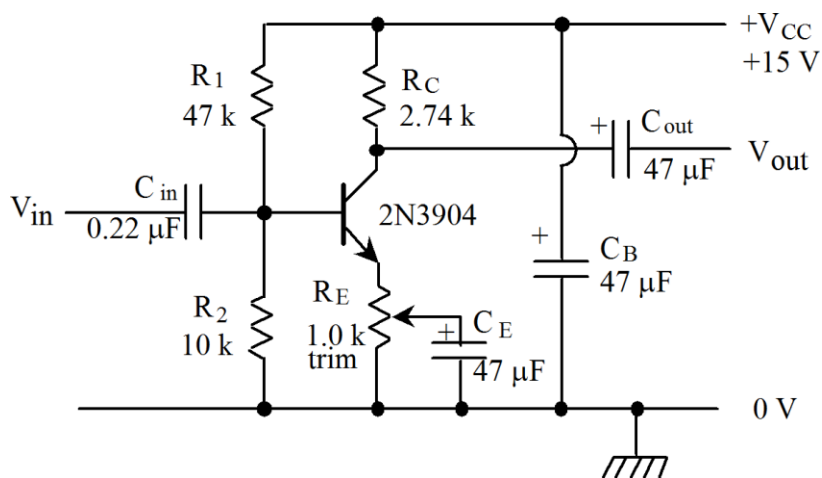

Figure 7.4 Common Emitter Stage Layout and Schematic
If we are interested in the ac gain, then we can replace R_C and R_E with the ac impedances attached to the collector and emitter, which may be different from the dc resistances. In our circuit we use C_E to bypass part of the emitter resistor at the signal frequency (see Fig. 7.4 below).
2. (2 points) Find the ac voltage gain of the circuit in Figure 7.4 (see below) for 15 kHz sine waves with the emitter bypass capacitor C_E removed.
3. (2 points) The emitter bypass capacitor can provide an ac ground path for the emitter, increasing the gain of the amplifier at high frequency. Considering the effects of the intrinsic emitter resistance r_e , what is the maximum possible ac voltage gain of the amplifier in Figure 7.4 (assume $I_C \approx 2$ mA)?
4. (3 points) What setting of the emitter trimpot is needed to give the required gain of -25 ? (Do not assume $r_e = 0$.) For the single stage in Figure 7.4, what are the input and output impedances r_{in} and r_{out} at 15 kHz and a gain of -25 ? Note that r_{in} is the impedance looking into the base in parallel with the base divider impedance. Calculate the fraction of the original amplitude obtained when a 560Ω load is connected to the output via a coupling capacitor (C_{out} in Fig. 7.4).
Figure 7.4 shows the first amplifier stage. When you build it, make sure to keep all wires that connect to the transistor at a minimum length. Otherwise, you risk spontaneous oscillations in your circuit due to the very large gain of the transistor. The base and emitter must not be on adjacent strips or the circuit will oscillate. Your circuit will be easier to understand if you try to keep the physical layout looking like the schematic diagram.
The first step is to construct the bias network and check that the correct dc levels (quiescent voltages) are established. Assemble the common emitter stage as shown in Figure 7.4, but without the input and output coupling capacitors or the emitter capacitor (without C_{in} , C_{out} , and C_E). The wiper contact on the emitter resistor R_E should not be connected to anything yet. Measure the resistors before putting them in the circuit, and if they differ from the values used in your calculations, recalculate the quiescent voltages. (You could also combine two or three resistors to match your initial values better, but this would increase the complexity and make it a harder to change the circuit later.) Before turning on the power, disconnect the power supply from the circuit